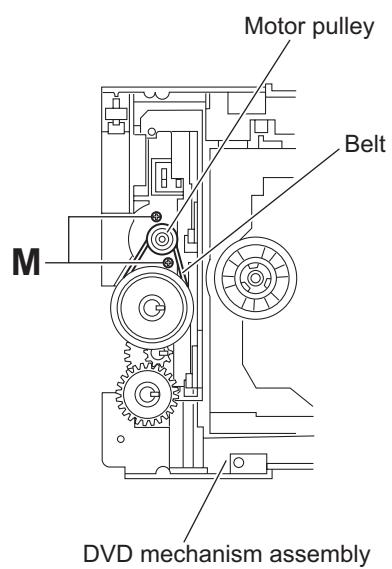

Fig.14
- (7) Remove the belt from the motor pulley. (See Fig.14.)
- (8) Remove the two screws **M** attaching the loading motor to the DVD mechanism assembly and take out the loading motor from the bottom side of the DVD mechanism assembly. (See Fig.14.)